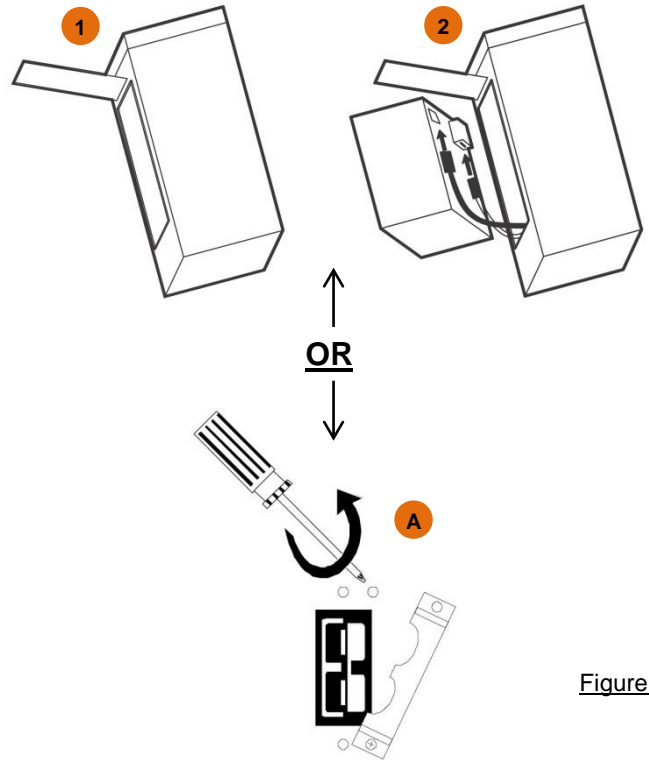

Figure 1
Connect the UPS's Internal batteries (Figure 1):
NOTE: Battery Disconnect/Connector may vary or be omitted on some models. Figure 1 illustrates some of the variations in connectors. Please follow the illustration which best resembles your UPS.
Procedure for Figure 1: (1, 2)
Procedure for Figure 1: (A)